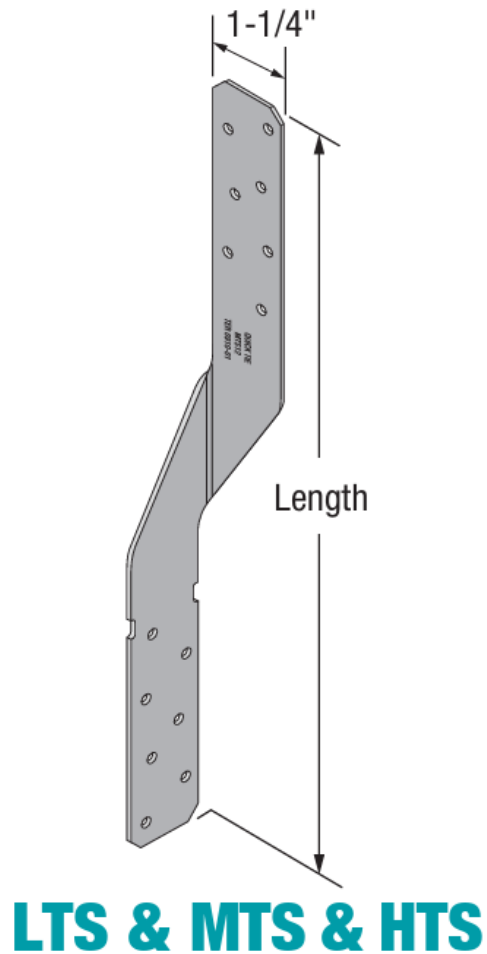

Figure 1. LTS Twist Straps
1.1 The innovative product in this report is shown in Figure 1.